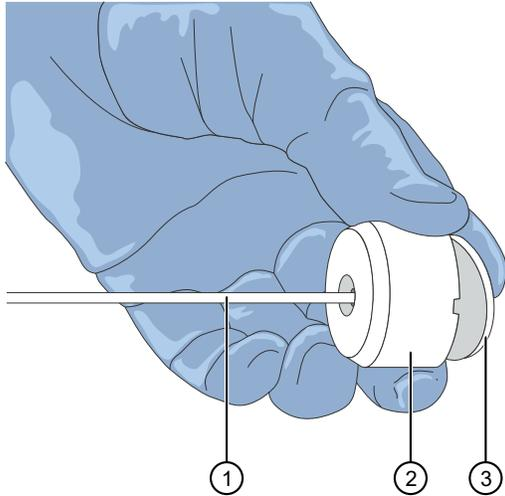

Figure 56 Components of the reagent buffer supply line and filter.
2. Carefully remove the filter from the end of the filter body (see Figure 56).